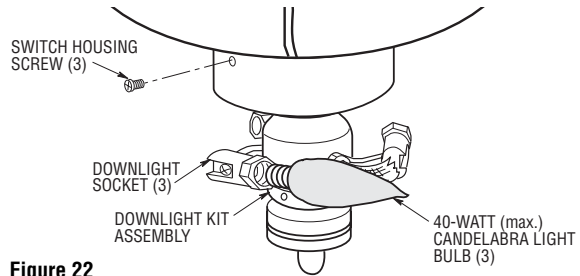

Figure 22
- 6. Position the switch housing assembly onto the switch housing plate and secure using the three switch housing screws (supplied) (Figure 22).
- 7. Install three 40-watt (max.) candelabra light bulbs (not supplied) into the downlight sockets (Figure 22).